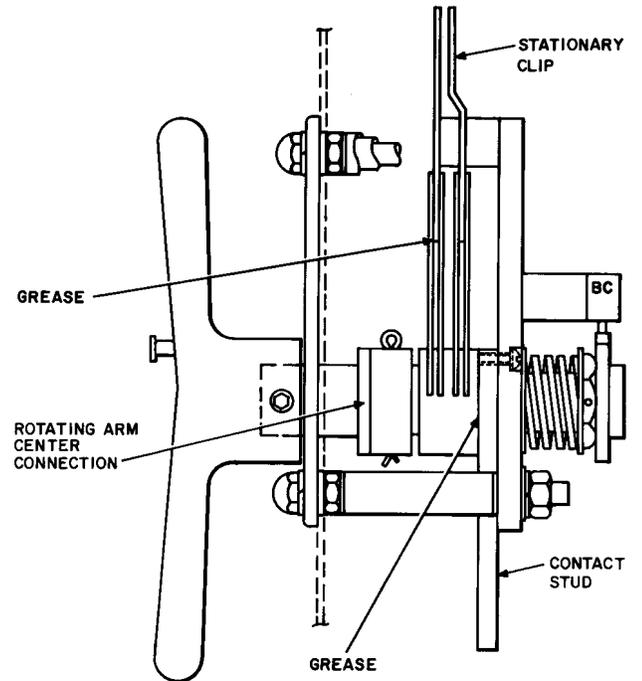

Fig. 4—Side View of S3 Switch Used on L21 and L22 Rectifiers
KS-20538 volt-ohm-milliammeter) between the contact stud (Fig. 4) on the S3 switch and the stationary clip (Fig. 4) representing BAT position on the base shall be 12 millivolts dc (with ambient temperature stabilized).
- (a) Clean the joint (Fig. 4) using KS-19578, L1, trichlorethane. With the switch (S3) disconnected from battery potential or with the output capacitors charged as in subparagraph 3.01(d), rotate the joint back and forth through its complete excursion while applying the cleaner. It may be necessary to place a cloth under the switch to keep dirt off the parts under the switch.
The stationary contacts are tightened against the plastic panel via studs and nuts. Separate the switch (Fig. 4 and 5) by removing the four nuts, one at each corner, from the screws through the mounting supports. The rotor nut must be removed from the drive shaft. An insulated spacer is used to separate the front plate from the base. Clean the holes through which the drive shaft passes and lubricate with petrolatum. Do not ream or enlarge the hole in the base. This will increase the shaft clearance and allow unneeded axial movement. On Lists 11 and 12 rectifiers, the reaming of the hole in the base will allow one deck of the switch assembly to move before the next one starts to move.